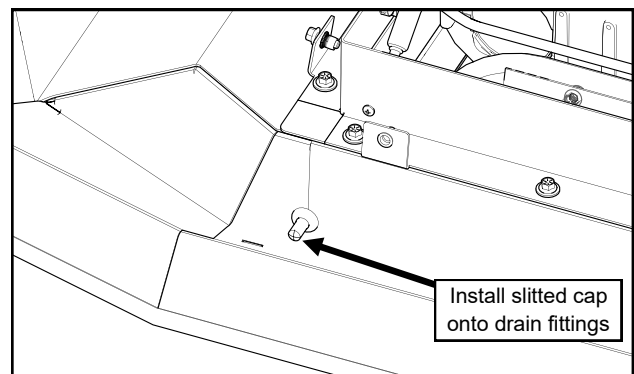

Fig. 4.11 (Drain caps)
- 4.11 Install a slitted-rubber cap on the end of both drain elbow fittings, inside the trough on the outside of the roof, as shown in Figure 4.11 (passenger's side shown).